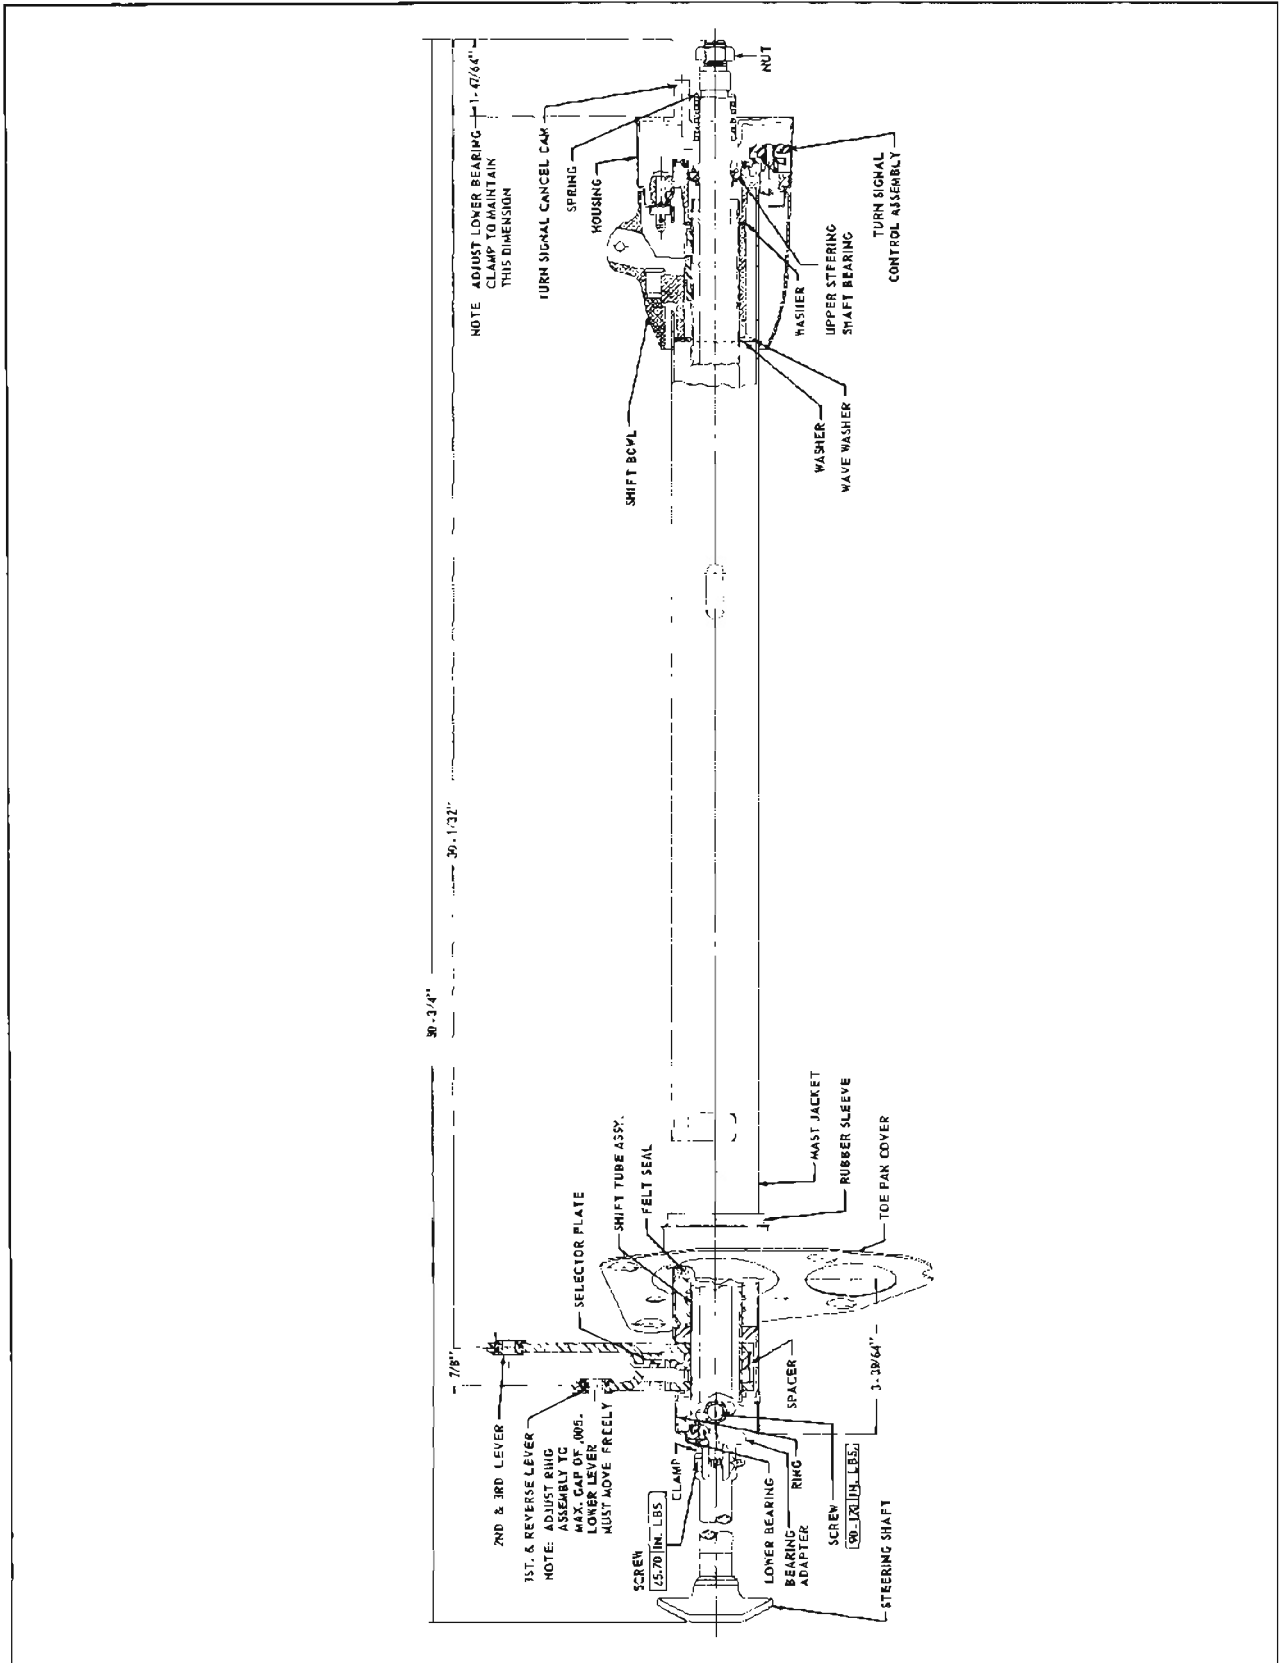

Figure 8-77—Mast Jacket and Transmission Control Shaft Assembly - Three Speed Synchromesh Transmission
NOTE: If the clamp on the steering shaft was loosened, readjust dimension of upper end of shaft to cover as shown in Figure 8-77.
2. Adjust ring at lower portion of mast jacket for maximum gap of .005 inch. Lower lever must move freely. See Figure 8-77.